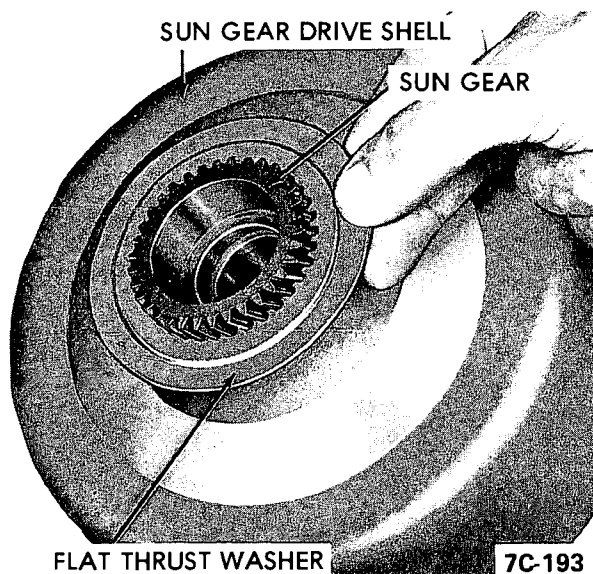

Figure 7C-125
2. Remove sun gear to drive shell flat rear thrust washer. See Figure 7C-125.